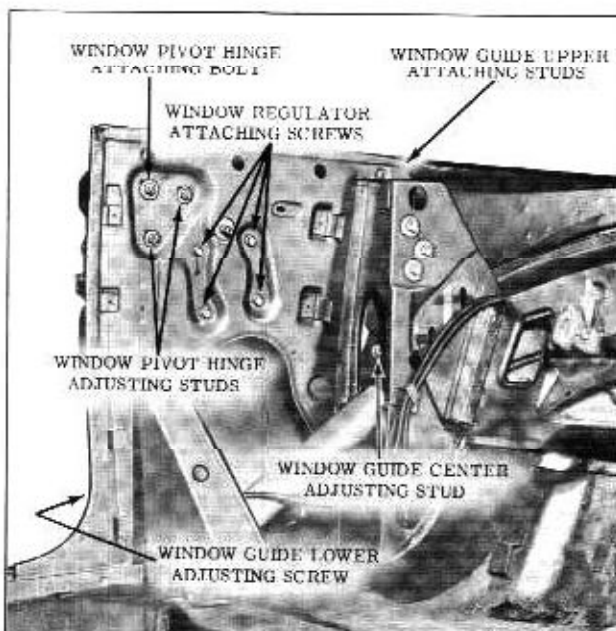

Fig. 15-27 Rear Quarter Hardware "67" Style
- Remove window pivot bolt (Fig. 15-27)
To adjust the forward travel and up travel of the rear quarter window, loosen the window guide upper attaching stud nuts. (Fig. 15-27) Adjust upper stop to desired position and tighten guide attaching screws.
Loosen pivot bolt and both adjusting stud nuts (Fig. 15-27) Position window, as required, and tighten pivot bolt and stud nuts.
Loosen lower adjusting stud nut and slightly loosen rear stud nut. (Fig. 15-27) Adjust lower stud "in or out", as required, then tighten both stud nuts.
Loosen pivot hinge rear adjusting stud nut and slightly loosen lower adjusting stud nut. (Fig. 15-27) Loosen window guide upper and center attaching screws. (Fig. 15-27) Adjust rear adjusting stud "in or out", as required, then tighten both stud nuts. Adjust window guide for proper alignment with window and tighten guide upper and center attaching screws.
- Remove window regulator attaching screws. (Fig. 15-27) Disengage roller on regulator
2. Remove window guide upper, center, and lower attaching stud nuts and screws. (Fig. 15-27) Remove guide through large access hole.